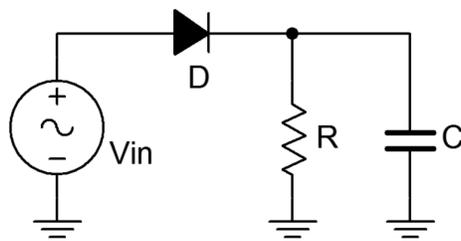

Figure 2
6. The circuit of Figure 2 adds a filtering capacitor across the load. This should help to “fill the gaps” created by the missing portions of the waveform. Build the circuit of Figure 2 using  $V_{in} = 10$  volts peak at 1 kHz,  $R = 10\text{ k}\Omega$  and  $C = 22\text{ nF}$ . Making sure that the scope inputs are DC coupled, place scope probes across the input and load, and capture the resulting image. Record the peak value in Table 2.